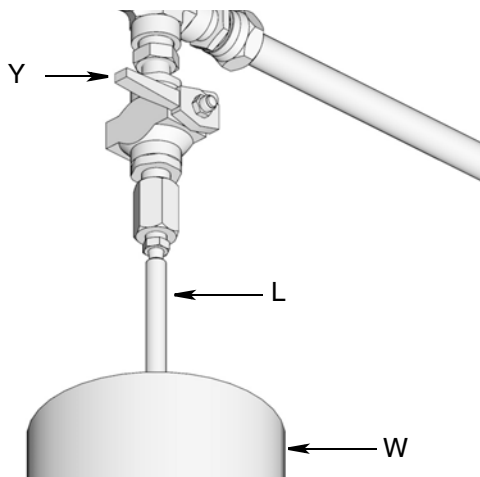

FIG. 29:
- a. To relieve pressure between the Refill Pump (F) and Auto-Fill Shut Off (B), open ball valve (bv) (FIG. 29). Pressure will be released and excess fluid will drain out of the drain tube (L) and into the lubrication overflow container (W).